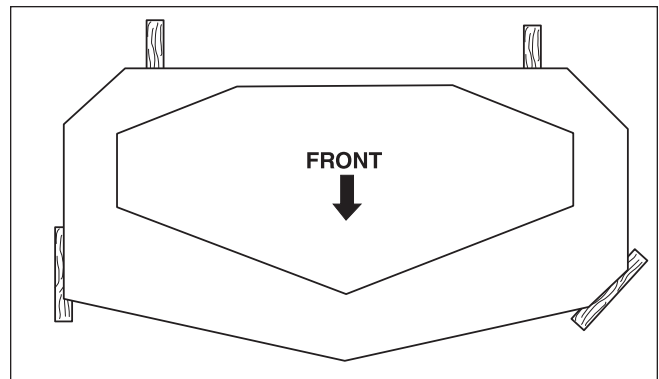

Figure 40. 2 x 4 Locations
3. Place 2 x 4 blocks under each corner of the mower deck with the 3-1/2" sides being vertical. Place a 1/4" (0,64cm) thick spacer on top of the rear 2 x 4 blocks. See Figure 40.